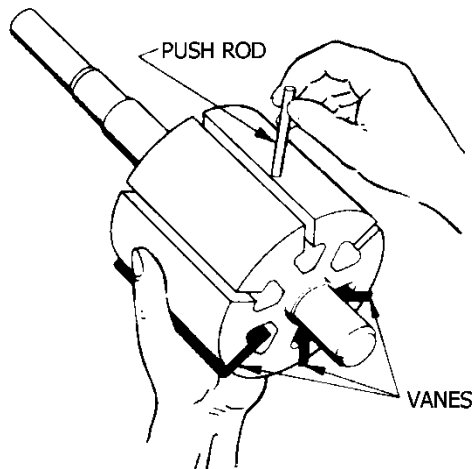

Figure 5 – Pushrod Installation
- b. Hold the three bottom vanes in place while inserting the three push rods (77). See Figure 5.